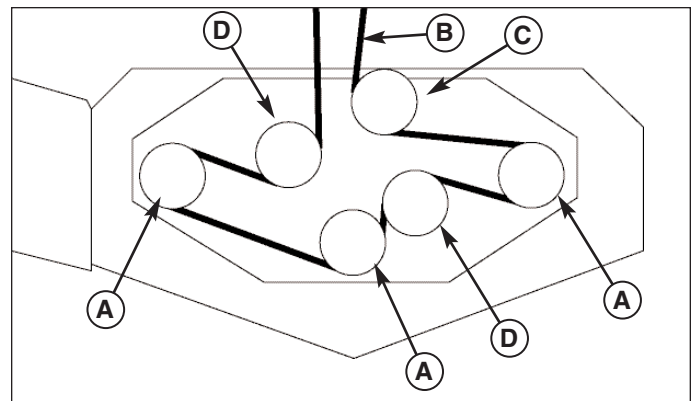

Figure 4. Mower PTO Belt Routing
11. Reinstall the belt. Make sure the V-side of the belt runs in the pulley grooves (Figure 4).
5. Install the drive belt on the PTO pulley, the spindle pulleys and all idler pulleys except the stationary pulley (D, Figure 4). Carefully rotate the breaker bar counter-clockwise and install the belt on the stationary idler pulley (D). Carefully release the tension on the breaker bar.